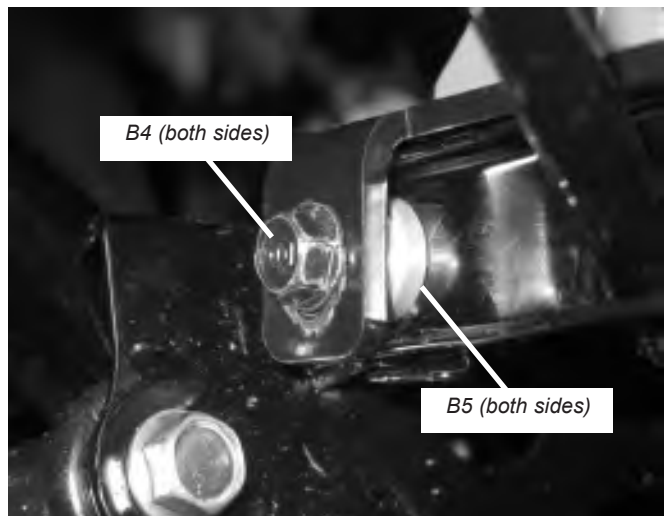

Figure 11 Bolt and Spacer Installation
12. Install the supplied 8mm-1.25 x 25mm bolts (B4) into the middle bumper mounting location, place the supplied spacer (B5) into position between the ATV frame and the winch mounting bracket tab figure 11. Do not tighten at this time.